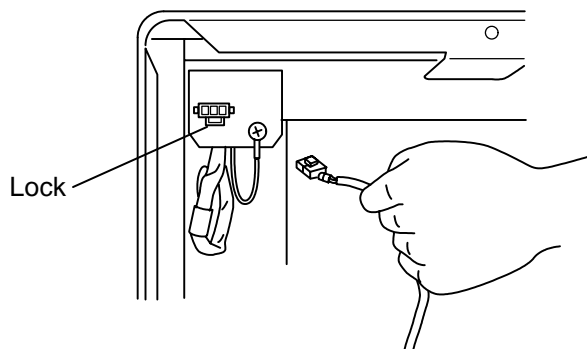

Fig. 16
3. Remove the connector cover on the unit by pushing the lock under the cover. Connect the power supply connector of the recorder with the connector on the unit. (Fig. 16)